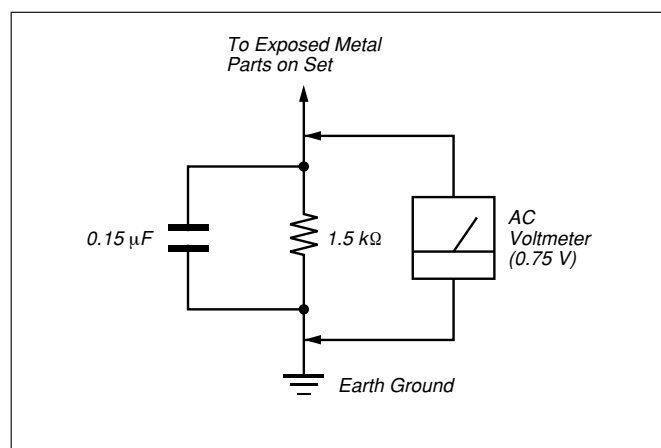

Figure 1. AC voltmeter to check AC leakage
3. Measuring the voltage drop across a resistor by means of a VOM or battery operated AC voltmeter. The 'limit' indication is 0.75V so analog meters must have an accurate low voltage scale. The SIMPSON'S 250 and SANWA SH-63TRD are examples of passive VOMs that are suitable. Nearly all battery operated digital multimeters that have a 2 VAC range are suitable. (see Figure 1.)